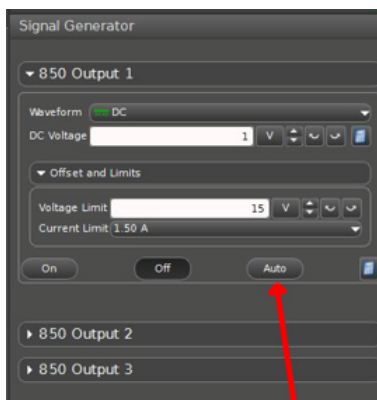

Figure 9: Signal generator window
- 9 Make sure that the AUTO button is active in the signal generator window, not the ON button. See Fig. 9.